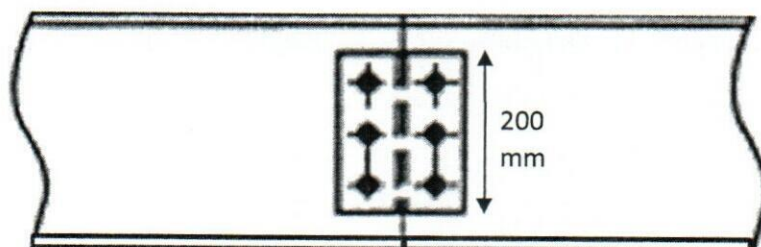

Figure Q2
- a) Explain why section classification is important for members in flexure and axial compression, but not for members in axial tension. You may use any Universal Beam (UB) section to aid your answers. [05 marks]
- c) A sketch of two axially loaded steel members (both UB 305x127x48) connected to each other using a splice plate connection is shown in Figure Q2. All steel members are of grade S235 and bolts are of 16 mm diameter.
- Due to limited availability of 8 mm and 10 mm thick plates, the connection in Figure Q2 is to be assembled using two 6 mm splice plates. Calculate the new utilisation ratio of the splice plates in transferring the design tensile force 480 kN. What is your interpretation of this new utilisation ratio? [05 marks]